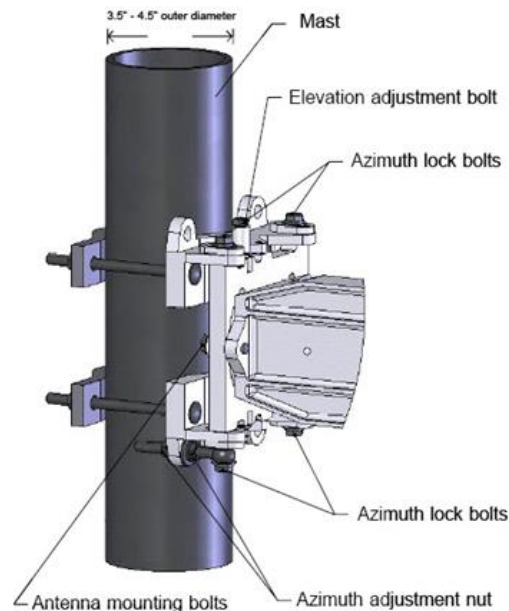

Figure 3-4 Azimuth and Elevation Fine Adjustments
5. Slightly loosen the four (4) 9/16” nuts on the pole clamp brackets to allow the antenna assembly to rotate around the mast. Rotate the antenna assembly from left to right until antenna is roughly aligned with the far end of the link, and then tighten the nuts to secure the pole clamps.
7. Identify and become familiar with the various bolts and nuts depicted in Figure 3-4, which are used for azimuth and elevation fine adjustments.